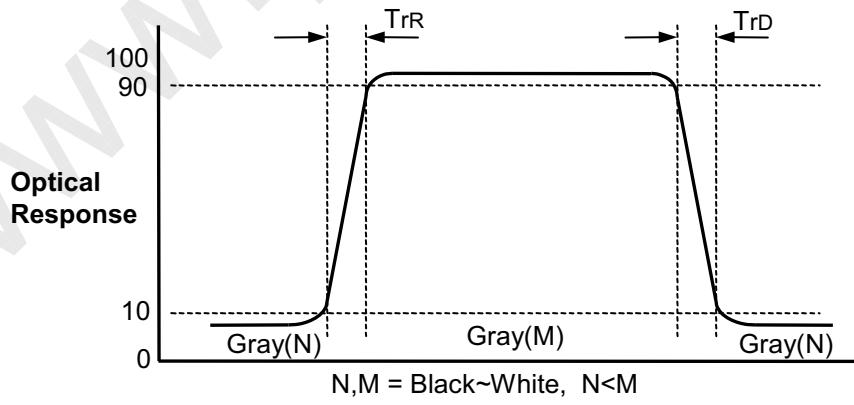

FIG. 3 Response Time
4. Response time is the time required for the display to transit from G(N) to G(M) (Rise Time,  $Tr_R$ ) and from G(M) to G(N) (Decay Time,  $Tr_D$ ). For additional information see the FIG. 3. (N < M)